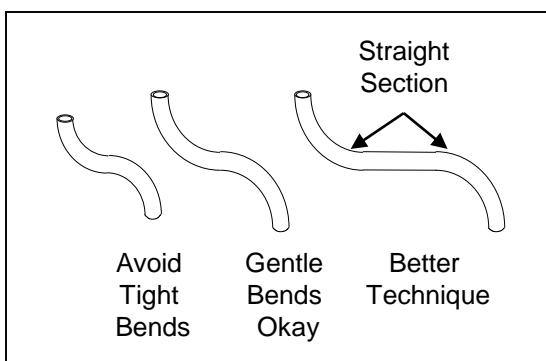

Figure 12
13.5 Avoid tight S-curves as they have the greatest negative effect on fiber bundle blowing performance. Make any S-curves as flowing and gentle as possible. Better solution is to install a straight section of run between the curves to reduce friction / drag on the moving fiber bundle. **See Fig. 12.**